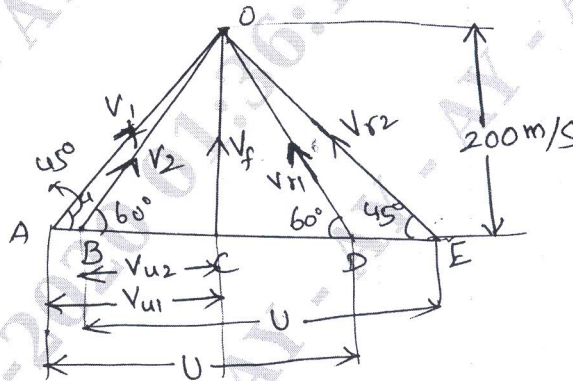

Fig.Q7(b)
- 7 a. Define degree of reaction (R) and utilization factor (ϵ). For axial flow turbines obtain relation between R and ϵ . (08 Marks)
- b. Air flows through one stage of turbomachine with a velocity diagram shown in Fig.Q7(b). Justify and find: